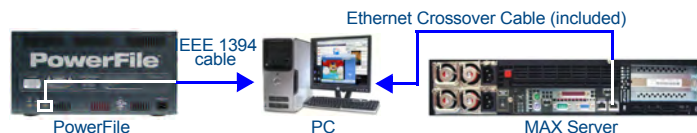

FIG. 2 Example configuration - direct connection
2. Use the included Ethernet crossover cable to connect the PC directly to the MAX server's **ETHERNET CONTROL** port (FIG. 2).